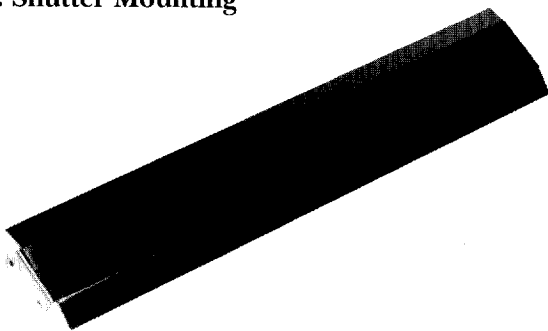

Fig. 11 Shutter
With shutter arms on outside of shutter mechanism arms, bolt upper and lower shutters (Fig. 11) to shutter mechanism with two (2) .25" (6.35mm) bolts, lock washers, and jam nuts on each.